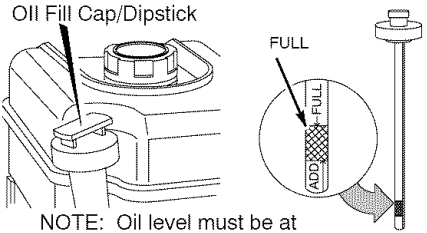

Figure 16
2. Remove the oil fill cap/dipstick and wipe with a clean cloth (see Figure 16).
- If necessary, add oil until the oil reaches the FULL mark on the oil fill cap/dipstick (see Figure 16). Do not add too much oil.